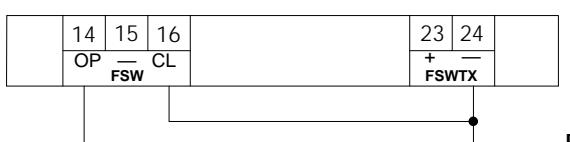

Fig. 4
**N.B.: If closing safety devices are not connected, jumper inputs OP and FSW TX (Fig. 4).**